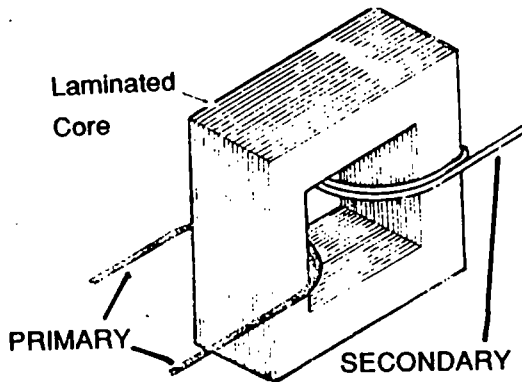

Figure 5.3 — A Simple Reactor
Figure 5-3 illustrates a very simple reactor or transformer. It consists of a primary and secondary coil of wire wound around a laminated iron or steel core. The core concentrates the magnetic lines of force created by current flow through the coils. Alternating current (AC) flow through primary winding creates a magnetic field which cuts through the secondary coil to induce a current flow into the secondary coil.